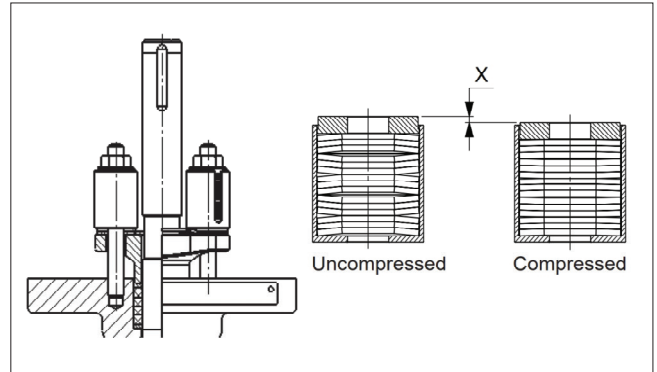

Fig. 14 High performance live-loading
- For the high performance live-loading option (Figure 14), pre compress the gland packing by X length until the top cap reach the shell holder (housing) to ensure proper force in use.